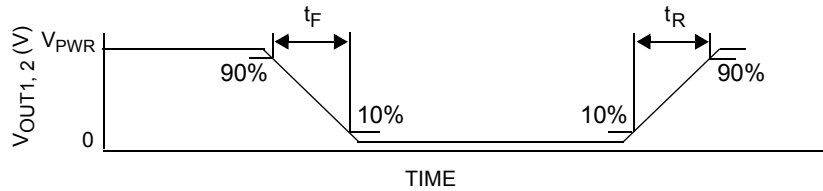

Figure 6. Output Switching Time
27. Rise Time is from the 10% to the 90% level and Fall Time is from the 90% to the 10% level of the output signal with $V_{\text{PWR}} = 14\text{ V}$, $R_{\text{LOAD}} = 3.0\text{ ohm}$. See Figure 6, page 9.